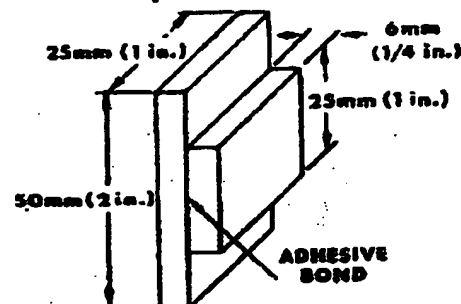

FIG. 1 Compression Shear Specimen
6.3.2.1 Cut 1 by 1-in. (25 by 25-mm) and 1 by 2-in. (25 by 50-mm) sections from  $\frac{1}{8}$ -in. (6-mm) thick sheet made from Class 12454-B PVC. One section of each size is required for each test specimen (Fig. 1).